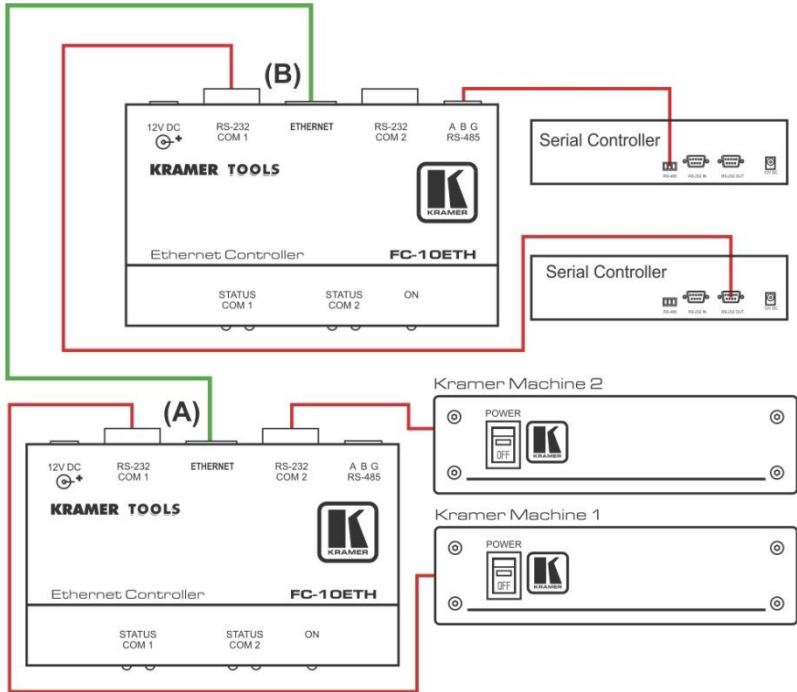

Figure 11: Connecting the FC-10ETH in the Active Routing Mode
To control a Kramer machine via serial controllers (in the Active routing mode), as illustrated in the example in Figure 11, do the following:
6. Connect units **(A)** and **(B)** to your network or Ethernet router, as illustrated in Figure 11.
- COM 1 port of the **FC-10ETH (A)** to the RS-232 port of your machine 1 (for example, a Kramer machine) via a null modem adapter
- COM 2 port of the **FC-10ETH (A)** to the RS-232 port of your machine 2 (for example, a Kramer machine) via a null modem adapter (alternatively, you can connect the RS-485 port of unit **(A)** to the RS-485 port of your Kramer machine).